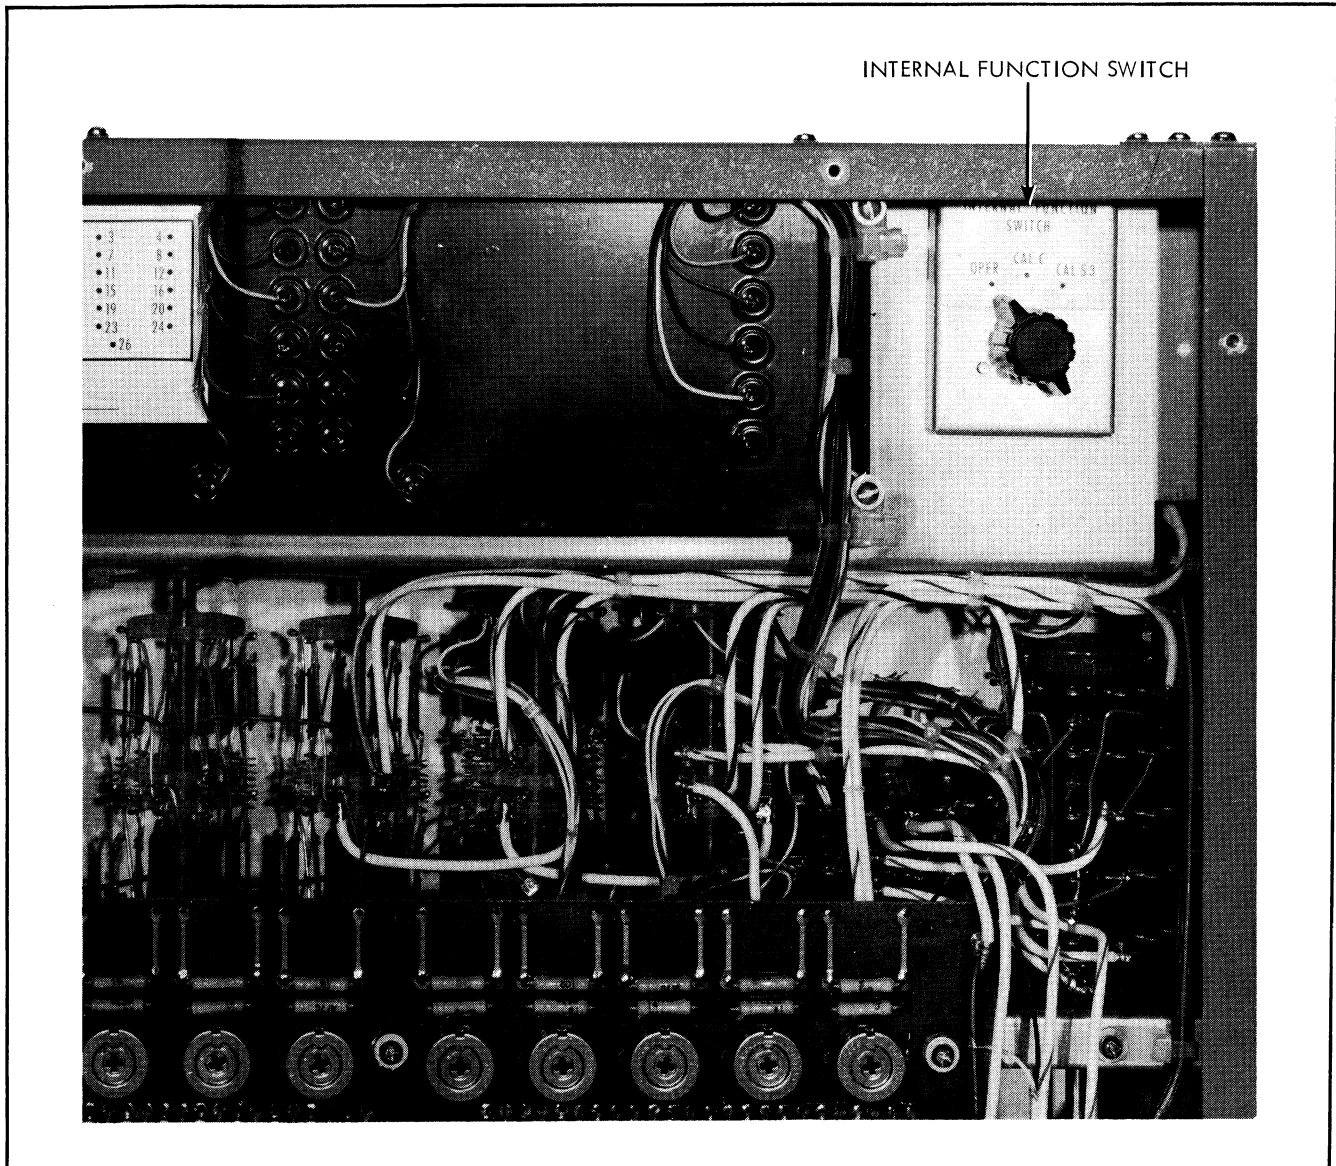

Figure 4-13. INTERNAL FUNCTION SWITCH
a. Turn the FUNCTION switch to CAL A; turn the internal FUNCTION switch to OPR (Fig. 4-13) and set the readout to .0000000.